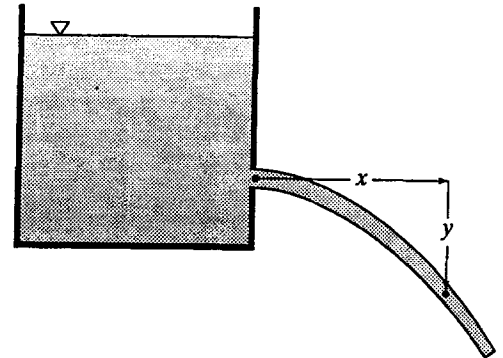

Figure X5.15.1
5.15.1 A jet issues horizontally from an orifice in the vertical wall of a large tank (Fig. X5.15.1). Neglecting air resistance, determine the velocity of the jet at the orifice for the following variety of trajectories: (a) $x = 1.0 \text{ m}$, $y = 1.0 \text{ m}$; (b) $x = 2.0 \text{ m}$, $y = 2.0 \text{ m}$; (c) $x = 3.0 \text{ m}$, $y = 3.0 \text{ m}$; (d) $x = 4.0 \text{ m}$, $y = 4.0 \text{ m}$. Express the answers in m/s.